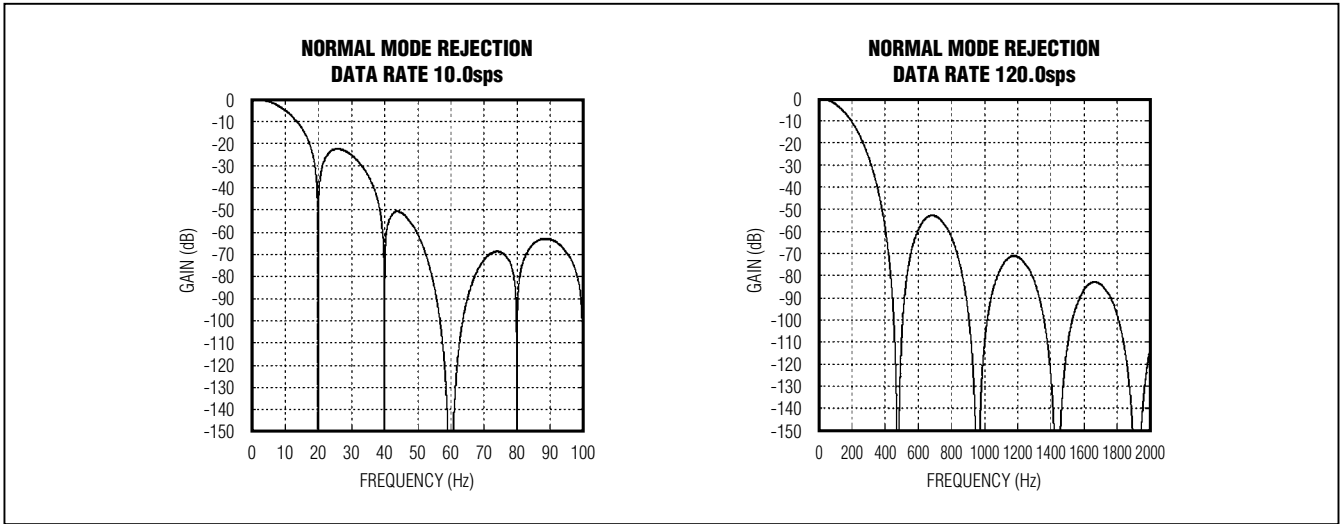

Figure 1. Normal-Mode Frequency Response (2.4576MHz Oscillator, LINEF = 0)
2.048MHz oscillator. The 2.4576MHz oscillator provides maximum 60Hz rejection, and the 2.048MHz oscillator provides maximum 50Hz rejection. See Figures 1 and 2. For optimal simultaneous 50Hz and 60Hz rejection, apply a 2.25275MHz external clock at CLK.
line frequency of 60Hz and is guaranteed to attenuate 60Hz normal-mode components by more than 100dB. Simultaneous 50Hz and 60Hz attenuation can be accomplished by using an external clock with a frequency of 2.25275MHz. This guarantees a minimum of 80dB rejection at 50Hz and 85dB rejection at 60Hz. The SINC⁴ filter has a -3dB frequency equal to 24% of the data rate. See Figures 1 and 2.